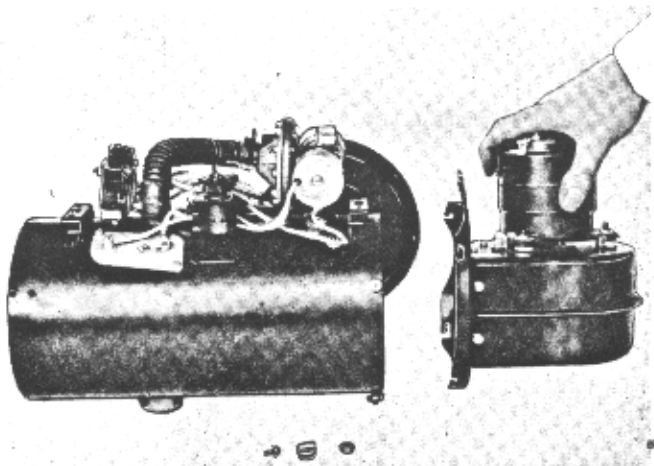

Figure 26
3. Remove blower housing by turning counter-clockwise on heater case until studs in case line up with slots in blower housing and pull free (Figure 26).